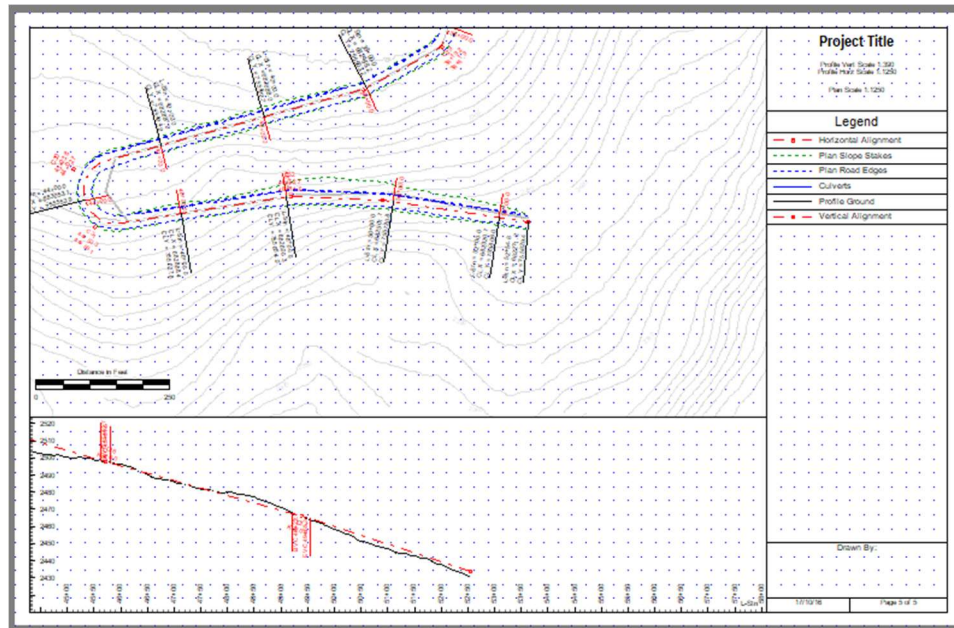

Figure 22-17: Legend Added to Layout
17. Finally move and size your legend so it fits nicely on the right side of the Plan and Profile graphics. See Figure 22-17.